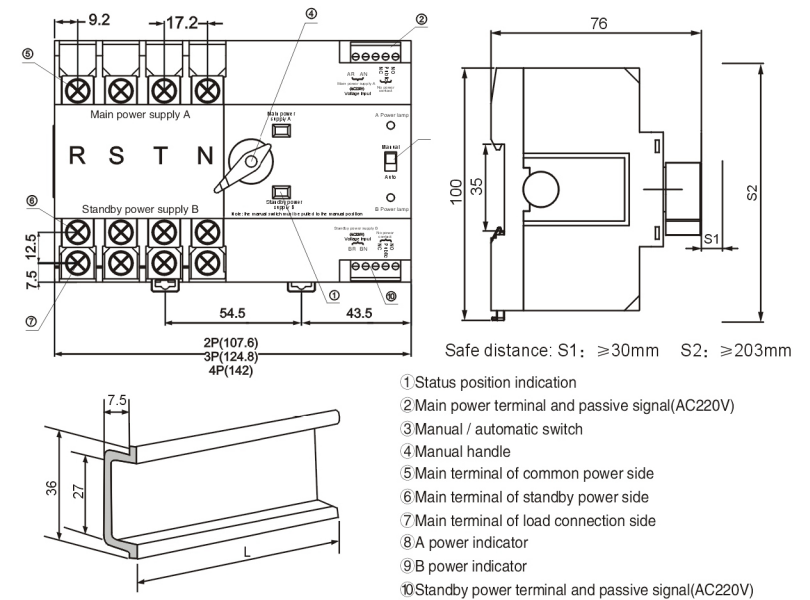

Fig.8
- 7.3 See the figure for the correct installation steps. The trademark is in front of the product. If the installation cannot be carried out according to the correct procedures due to wiring and other reasons, please contact us. The safe distances S1, S2 should not be lower than the labels in Fig. 8. (See figure below for details)